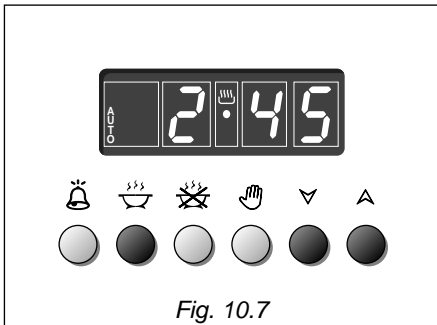

Fig. 10.7
1. Set the length of time you need to cook the food by pushing the  button and the  button to advance, or  to go backwards (Fig. 10.7). This sets the desired "stop" time.